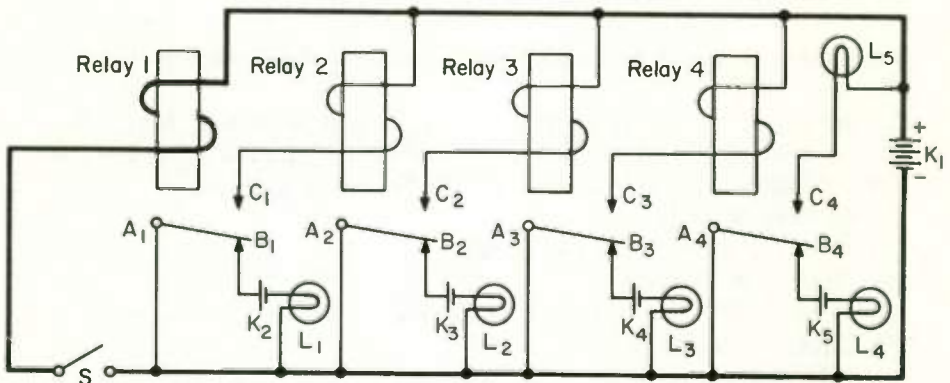

Fig. 20
7. In Fig. 20 what lamps will burn when switch S is open?
8. In Fig. 20, the first thing that will happen when switch S is closed is that relay number _____ will be energized. (To help you on this one, the unbroken current path when switch S is first closed, from negative terminal to positive terminal of battery K_1 is shown by a heavy line.)
16. If when switch S , Fig. 20, is closed, lights L_1 and L_2 go off while L_3 and L_4 stay on, which of the following might be the trouble? (More than one might be.) _____